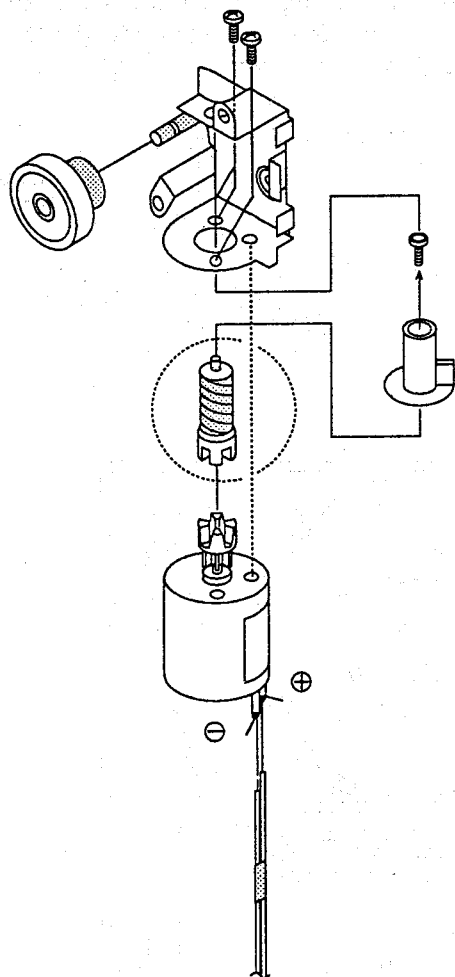

Figure 4-50.
- ① Take out the old loading motor. Place a replacement loading motor as shown above (figure 4-50.).